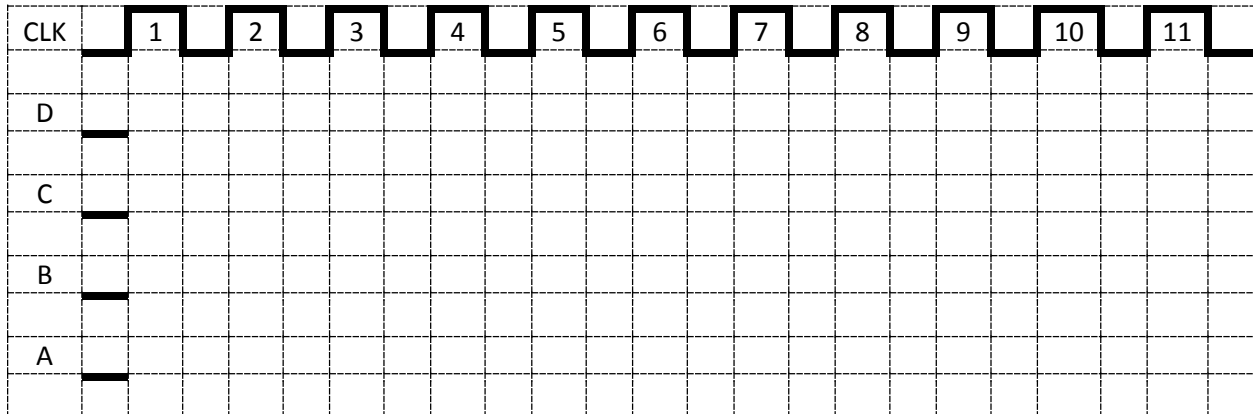

Figure 3
- 2.4. Draw the output of the four LEDs for the first 11 clock pulses Figure 3.